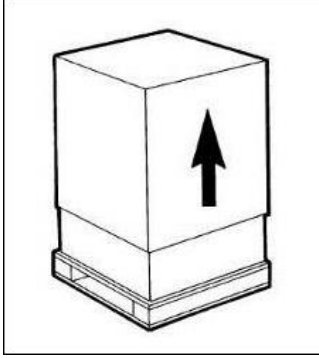

Fig. 65
- a. After removing the packaging, **preserve all parts of it for winter storage** and ensure the integrity of the appliance (Fig. 65).